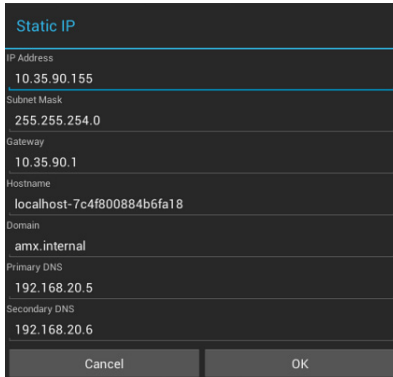

FIG. 54 Static IP (IPv4) window
2. Press **Static** to open the *Static IP (IPv4)* window (FIG. 54).